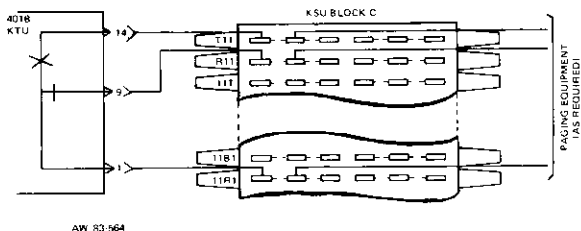

Figure 14: Connecting Details, Paging Equipment ON/OFF Control
- (2) Connect the T and R terminals to the MISC connecting block for cross-connection to the paging amplifier.
- (e) For on/off control of the paging amplifier, connect KSU card connector pins 1, 9, and 14 as required. Use pins 1 and 14 for a make contact set. Use pins 1 and 9 for a break contact set. Pin 1 corresponds to terminal nR1 for the KSU card connector. Pins 14 and 9 correspond to terminals Tn and Rn, respectively. See Figure 14 for connecting details.